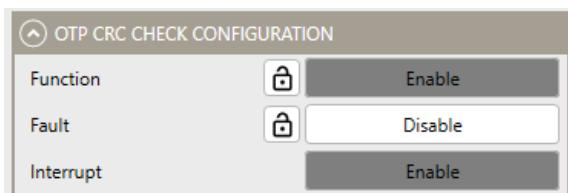

Figure 32: OTP CRC Configuration
28. Configure the one-time programmable (OTP) memory cyclic redundancy check (CRC) (see Figure 32).